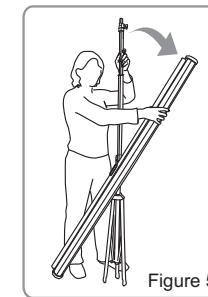

Figure 5
3. Rotate the housing counterclockwise to horizontal level. (Figure 5)